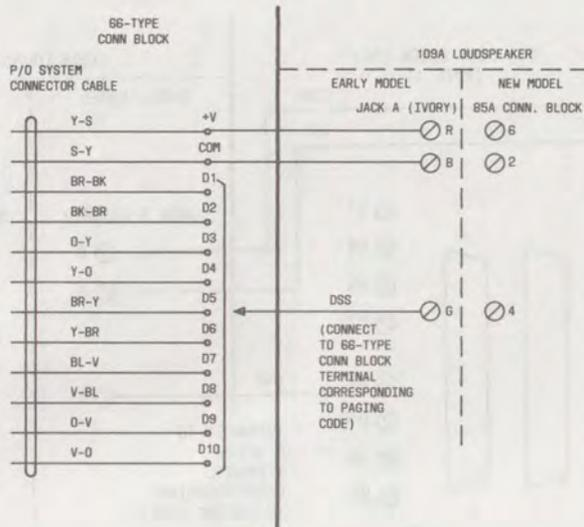

Fig. 27—Paging Connections Using 66-Type Connecting Block
*primary, it can be connected via a 91B block cut into the system cabling (Fig. 26) or a 66-type block (Fig. 27). A 91A connecting block (MD) removed from an older installation may also be used for paging connections (Fig. 28).*